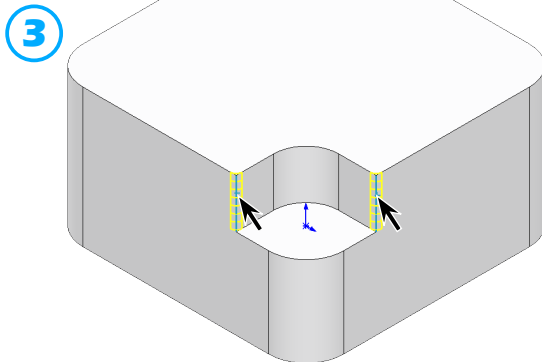

Fig. 16
③ **Radius**  **.7**
click vertical side edges of cut (2), Fig. 16